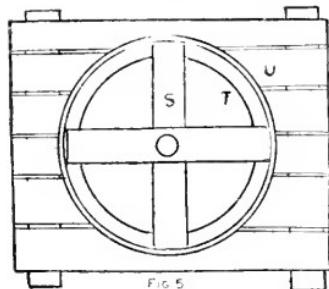

FIG. 5
The stand for the wheel shaft is shown in Fig. 2. Arrange the base piece in platform order, (J). This is more fully shown in Fig. 5. On top of this base piece, which is about 36 in. long, place the seat or ring for the revolving table. The circular seat is indicated at H, Fig. 1. This ring is like an inverted cheese box cover with the center cut out. It can be made by a tinner. Size of ring outside, 35 in. The shoulders are 1 in. high and made of tin also. Form the shoulder by soldering the piece on. Thus we get a smooth surface with sides for the mill base to turn in so as to receive the wind at each point to advantage. The X-shaped
piece H rests in the tin rim. The X-form, however, does not show in this sketch, but in Fig. 5, where it is marked S. This part is made of two pieces of
the shaft, thus holding the gear firmly in place. The platform for the entire wheel device is shown in Fig. 5. The